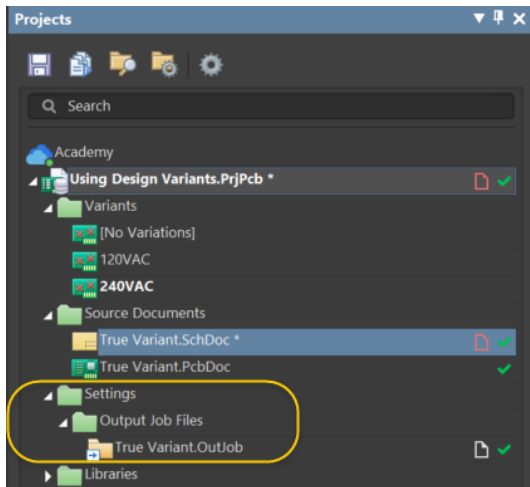

Figure 8. Output Job file from the Projects panel
23. From the *Projects* panel, open the `True Variant.Outjob` file that is found in the *Settings* folder as shown in Figure 8.